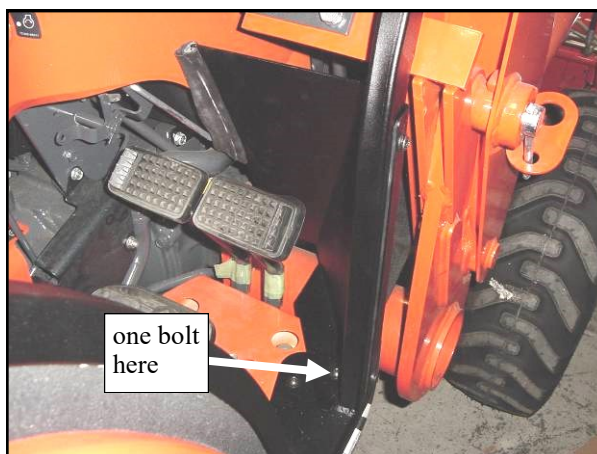

Fig. 8.2 (view from right side of tractor)
8.2 Per fig. 8.2, use the following hardware to connect to the bottom of the side frame: a 5/16 x 3/4" long hex flange bolt, plastic washer and flange locknut. Bolt head to be up top and locknut underneath the floor. Do not tighten bolt.